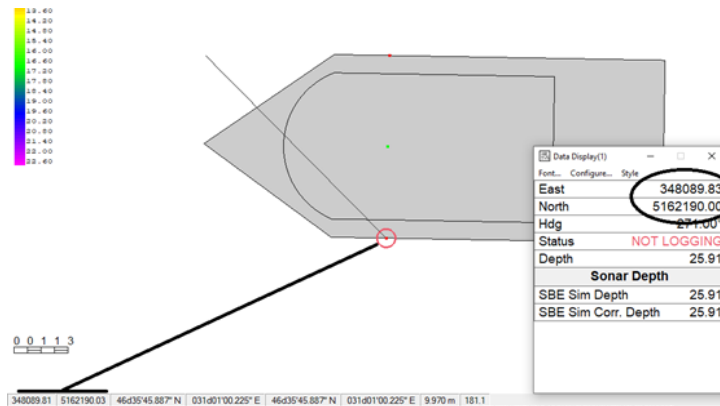

FIGURE 5. Boat Coordinates in the Data Display
- Show the Boat Coordinates in the Data Display (Figure 5)